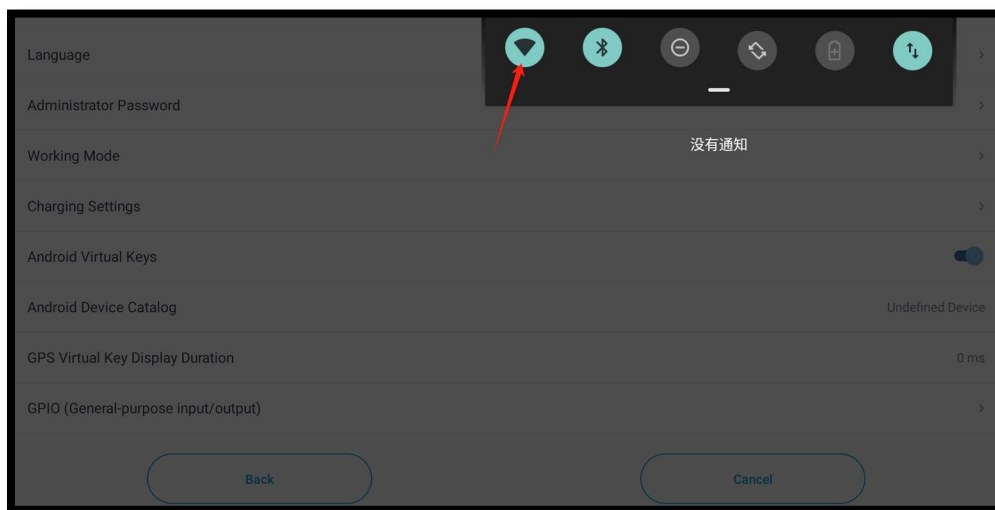

Figure 3.6 Finishing Wi-Fi Setup
- 4) After Android Virtual Keys option is enabled, **slide downward in the upper right corner of the screen** to reveal the device's fast setting panel (Figure 3.6).